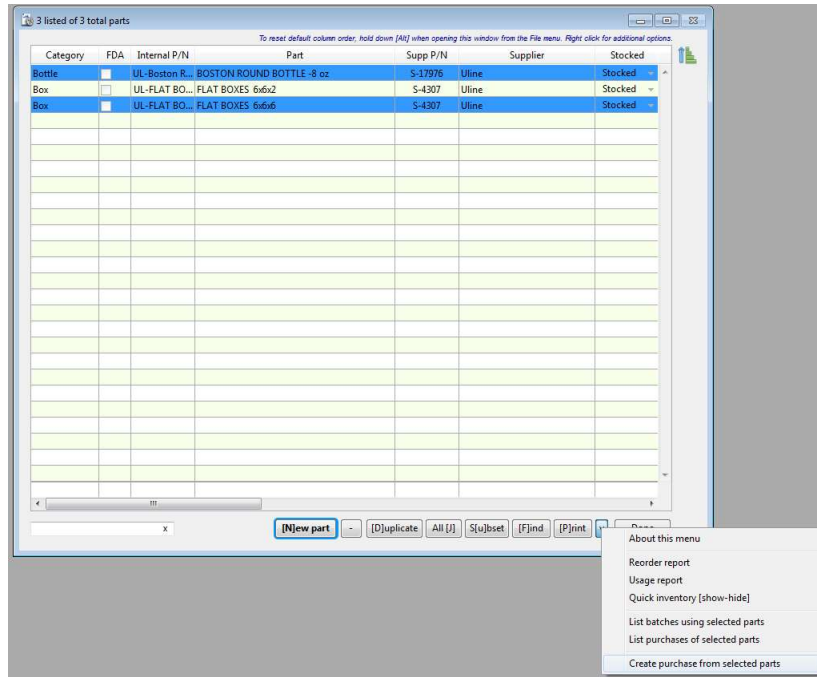

Fig. 3. Selecting parts to purchase, from the Parts browse list.
4. Create a purchase record from a **selection of part records**. From the **Parts browse list**, select (highlight) the part record(s) you wish to purchase, and then select **Create purchase from selected parts**, from the drop-down menu next to the **[P]rint** button (Fig. 3). You can also right click on the highlighted record(s) to use this feature, but be careful not to de-select some of the highlighted rows.